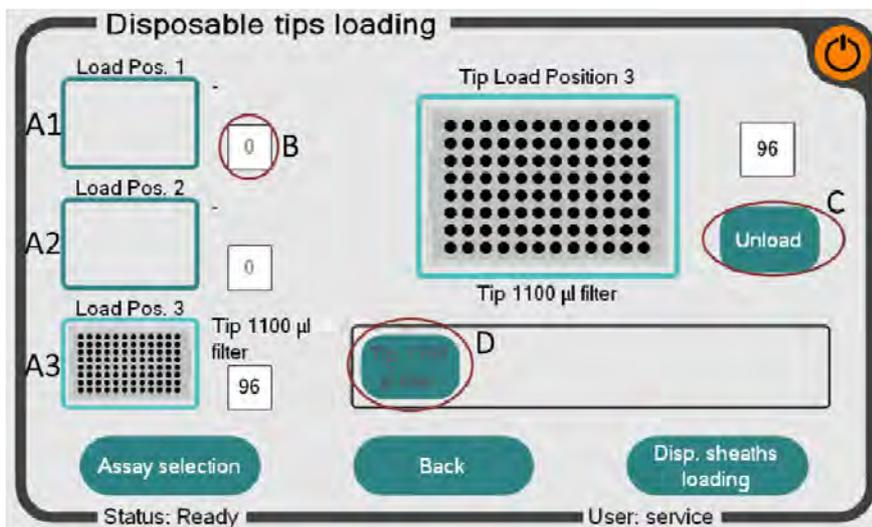

Figure 8: Disposable tip loading screen
There are three tip rack positions on the InviGenius® system (Fig. 8, A1-A3). Remaining tip-numbers are shown in field (B). Tip-numbers can be changed by pressing the number-field directly.